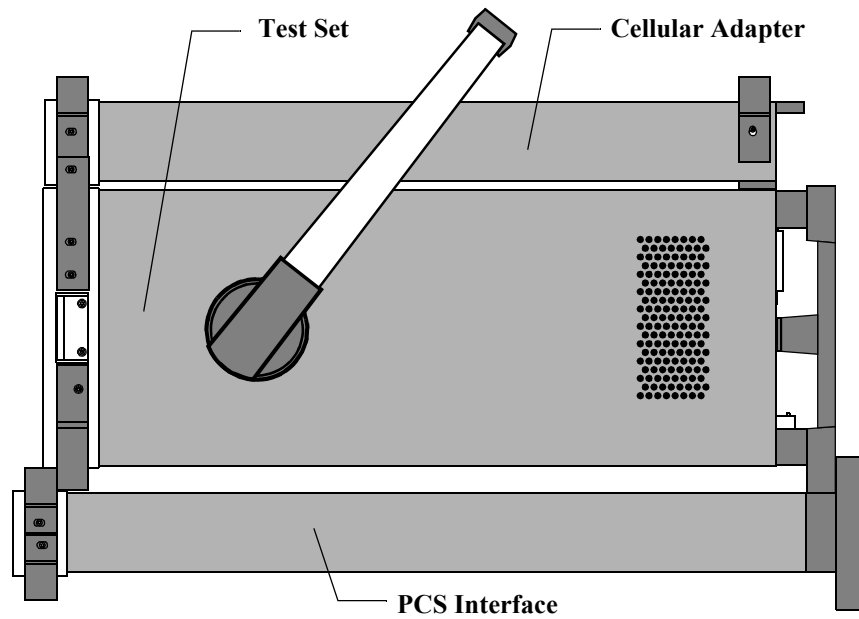

Figure 7
- a If you are placing the Test System horizontally (on a bench top, for example) place the Test Set (together with the Cellular Adapter) on the top of the PCS Interface. Position the bumpers (feet) of the Test Set so that they are stably seated between the forward and rear bumpers of the PCS Interface. Refer to figure 7.